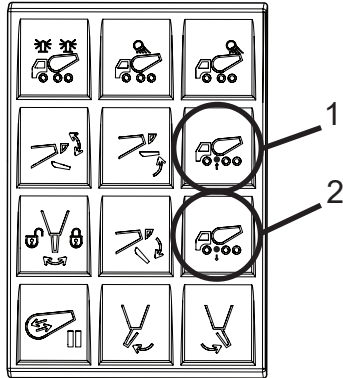

Figure 161
- Press the Pusher Axle function button (UP button is Item 1, and DOWN button is Item 2) on the standard in-cab keypad (Figure 161).